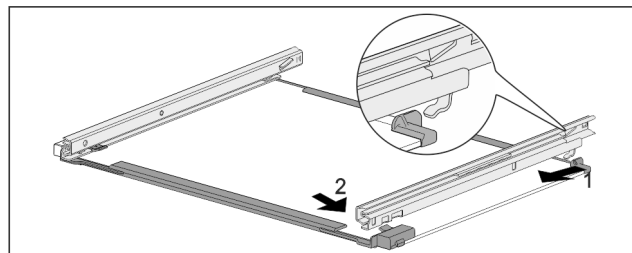

Fig. 173 Glass shelf with rails
- Hook in rail at the back. Fig. 173 (1)
- Hook in rail at the front. Fig. 173 (2)